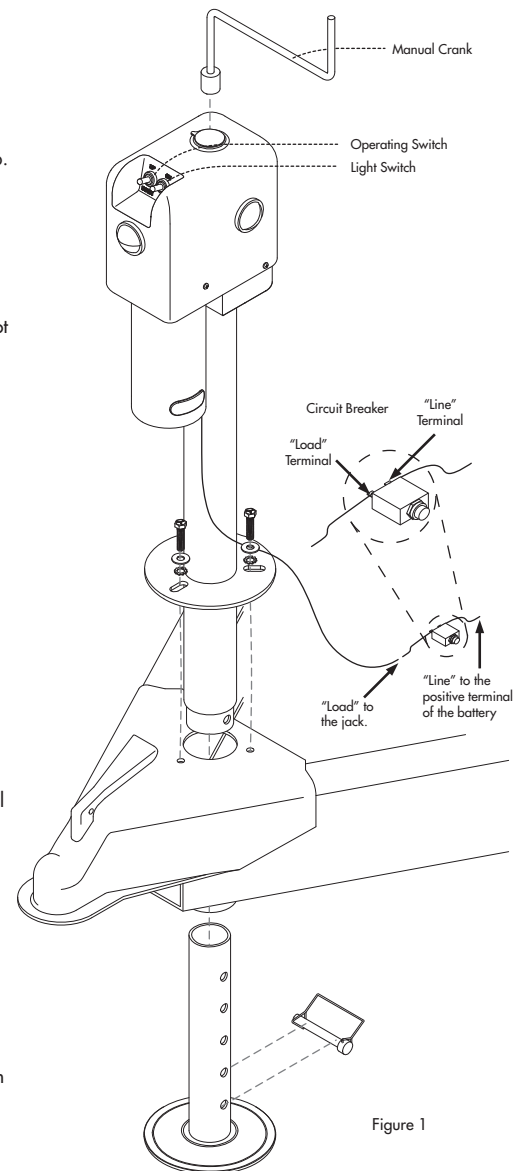

Figure 1
4. Insert the Husky® Brute into the jack hole and align the bolt holes so the motor housing is facing forward as shown in Figure 1.
5. Secure the jack with three (3) grade 5, 3/8"-16 UNC bolts and washers. Place the star washers between the flat washers and the mounting plate as shown in Figure 1. The star washers are intended to penetrate through the paint on the mounting plate to ensure direct metal to metal contact. Bolts should be tightened to 15-20 ft•lb.